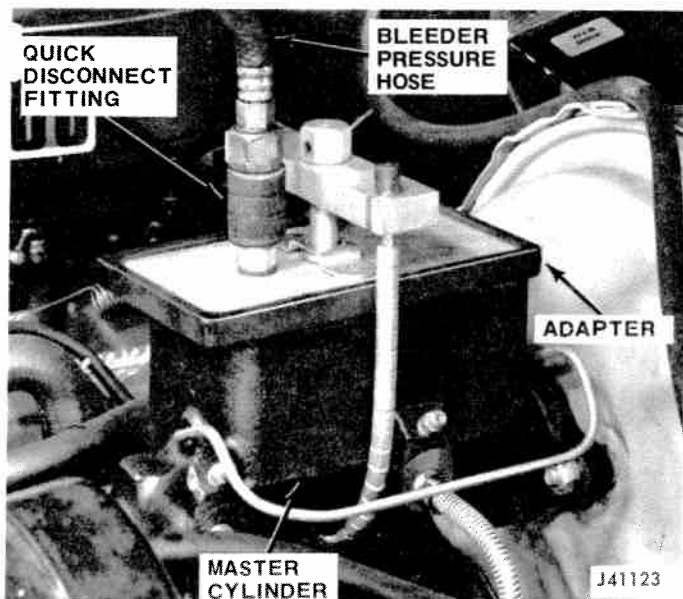

Fig. 9-21 Pressure Bleeder Adapter Installed
(1) Clean any accumulated dirt from master cylinder cover.
(2) Remove cover and rubber diaphragm seal. Place cover on work bench or on lint-free cloth. Do not allow diaphragm to contact dirt or foreign material.
(3) Fill master cylinder if required.
(4) Install brake bleeder adapter cover on master cylinder (fig. 9-21). Connect hose from pressure bleeder to fitting on adapter and open release valve on pressure bleeder.